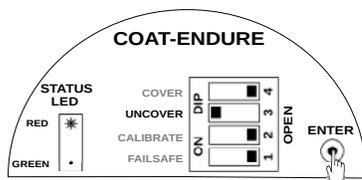

Figure 11: Setting Uncover Delay
3. Press ENTER and keep it pressed as shown in Figure 11. The STATUS RED LED will start blinking. Count the number of blinks. After setting the value release the ENTER key.